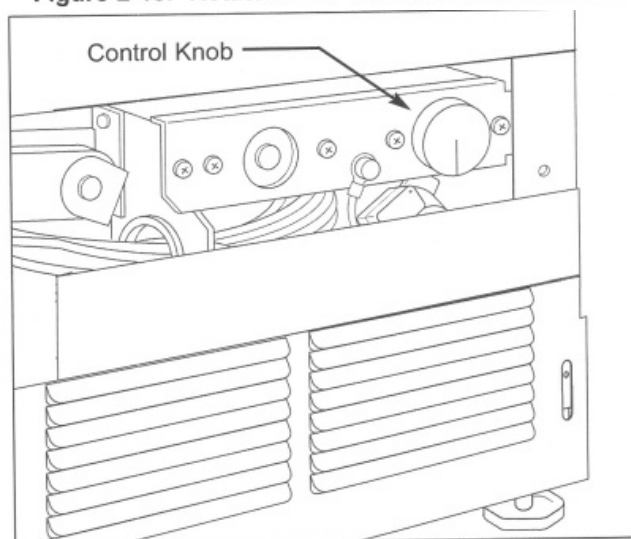

Figure 2-14. Control Knob in "NORMAL" Position
6. Make sure there is power to the unit, then place the ice machine control knob on the control shaft and turn the ice machine control knob to the "NORMAL" position (pointing straight down). (See Figure 2-14)